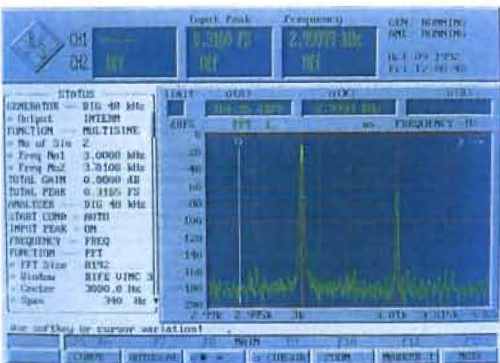

Fig. 3: Zoom FFT of a sine wave signal with a nonharmonic spaced 10 Hz away
A special feature is the zoom FFT (Fig. 3). The signal to be measured is digitally processed and the frequency resolution can be increased by a factor of 2 to 256 over a selectable range. In this way, a maximum resolution of 0.02 Hz can be obtained. It must be emphasized that this is not just a scale expansion, the measurement is really made at this higher resolution.
- Instrument settings can be displayed together with graphical and numerical results (Fig. 3).